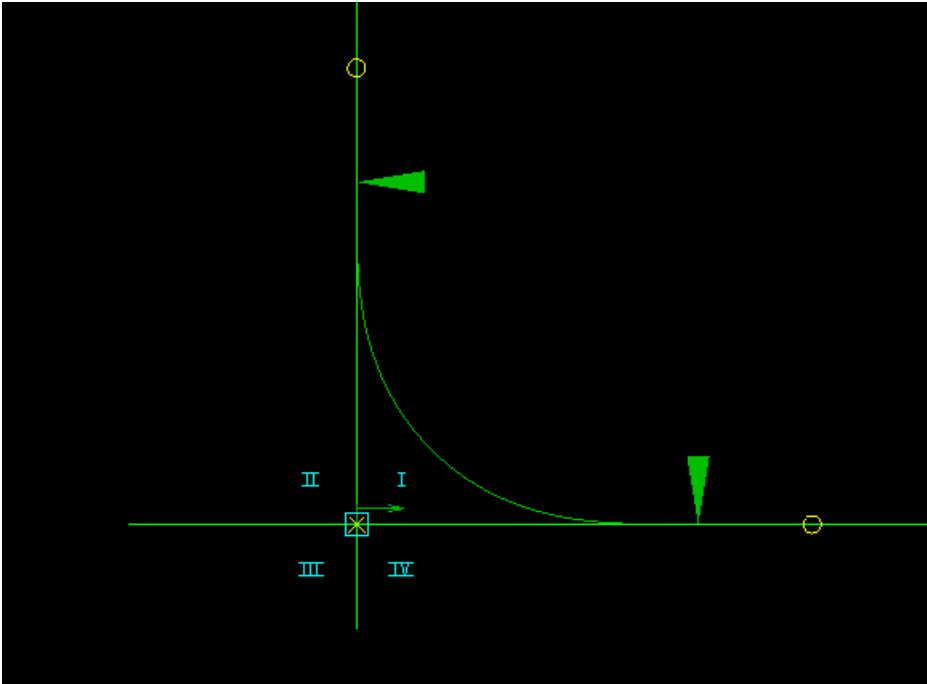

Figure 2.10: Two manet points should be place at least 0.5 meter from the end of a curve.
- 2. A curve should have 2 magnets placed at least at 0.5 meter from the end of the curve fig.2.10.